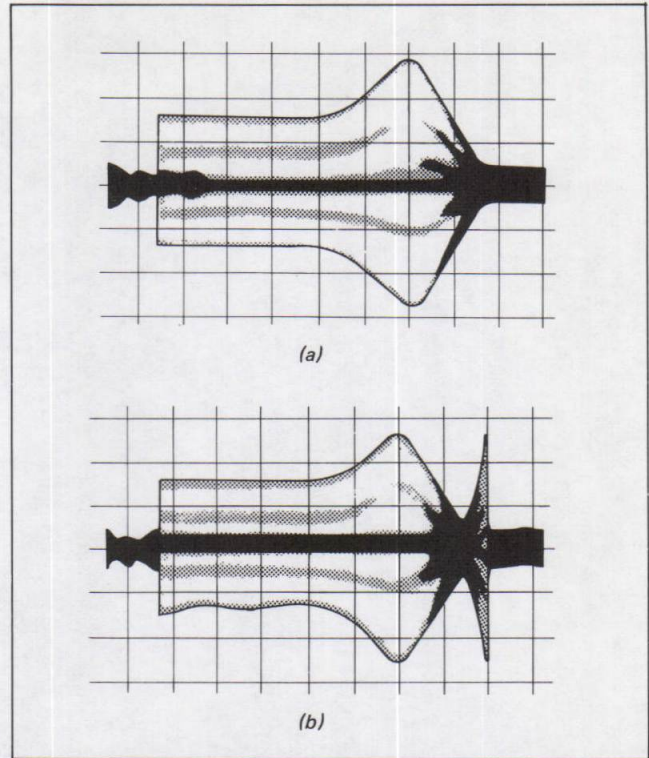
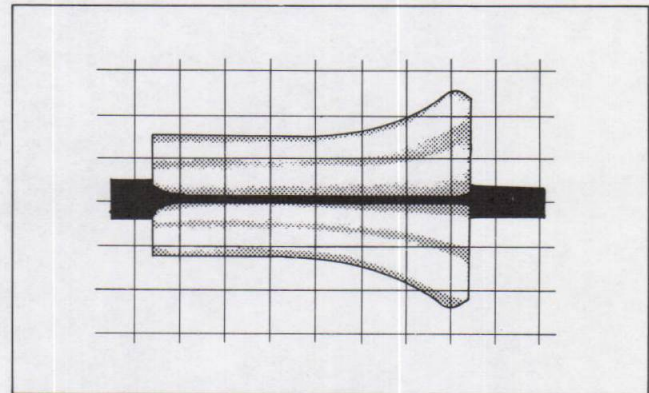
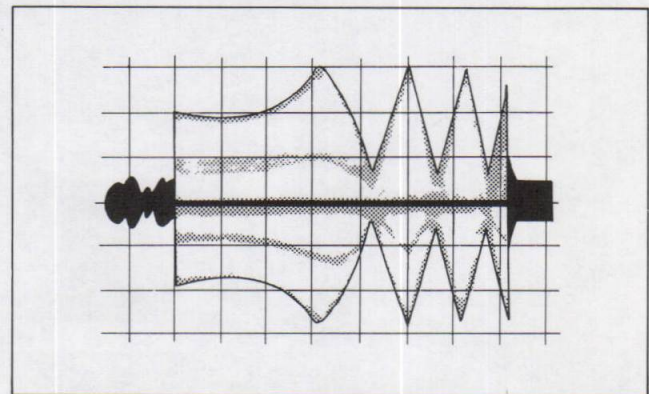

Fig. 4-16.
Fig. 4-17.
Fig. 4-18.
- i) If the exit free waveform is within the range indicated in Fig. 4-16(a), (b), proceed from step 5).
- ii) If the peak of the exit free waveform is smaller than that illustrated in Fig. 4-16(a) (e.g.: Fig. 4-17), loosen the capstan lock screw, then turn the adjustment screw counterclockwise (less than 60°) until the waveform is within the specified range.
- iii) If the peak shape of the exit free waveform differs from that shown in Fig. 4-16(b) (e.g.: Fig. 4-18), loosen the lock screw, then turn the capstan adjustment screw clockwise (less than 60°) until the waveform is within the specified range.